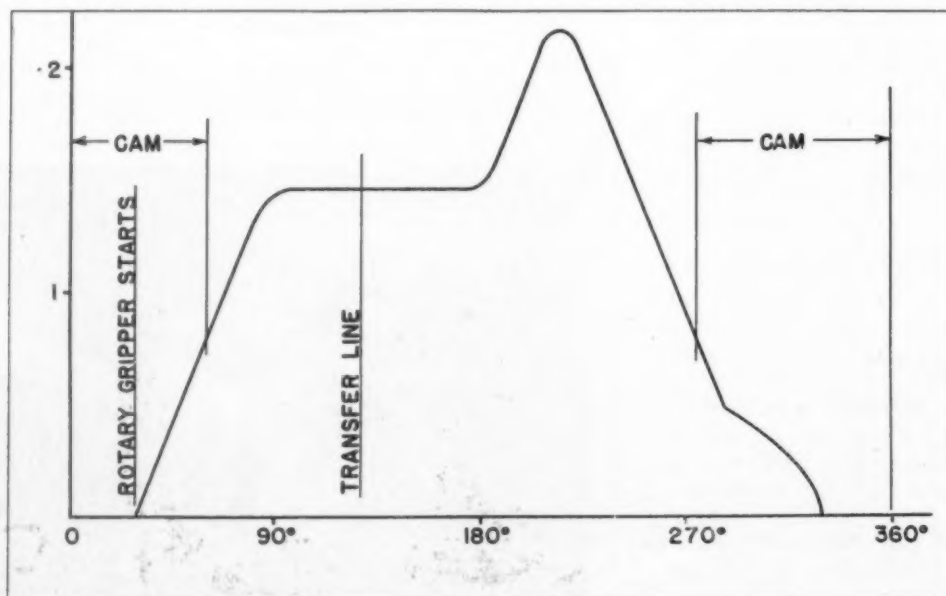

Fig. 5 — Rotary Transfer drive speedgraph
**Noncircular Gear Mechanisms:** A third printing press mechanism employs a combination of noncircular gears and cams to achieve the motion shown by the speedgraph in *Fig. 5*. This is the drive for a rotary "transfer", a device which acts as a fixed stop for registering a sheet and then as a conveyor to accelerate the sheet from rest and transfer it to a constant-speed cylinder. In the time left after these operations, the transfer quickly completes the remaining half-revolution to act as its own slow-down device and gently bring the next sheet to rest.